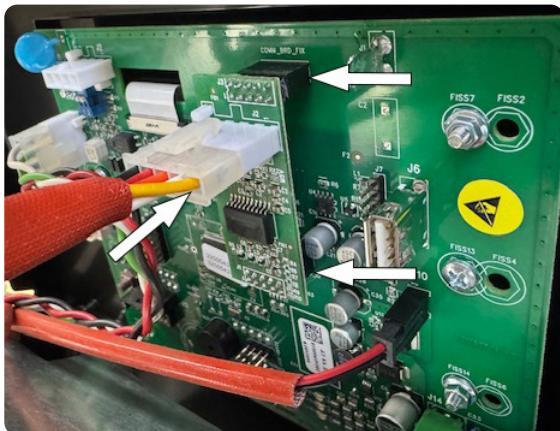

Fig. 9
- ◆ Fix the 5602689 (pos.5) Modbus RS485 circuit to the rear side of the 5602582 panel circuit using connectors J1 and J4 as indicated in fig.9
- ◆ Connect the 4-pole connector at the opposite end of the 5587461 (pos.6) connection to the connector J2 of the 5602689 (pos.5) Modbus RS485 interface circuit, as shown in fig.9.